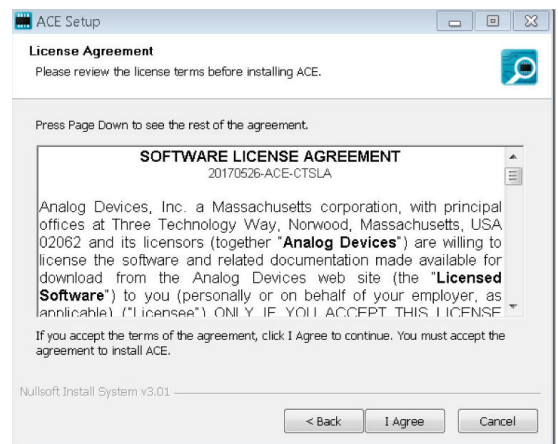

Figure 11. License Agreement
5. Read the software license agreement and click **I Agree** (see Figure 11).